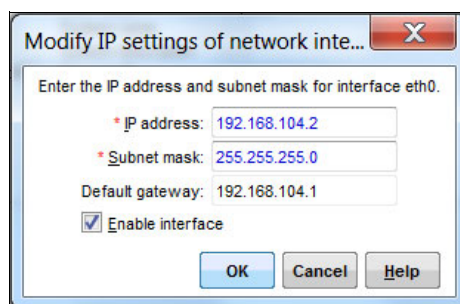

Figure 14-5 Window to assign the IP address of the network interface
3. In the dialog box that is shown in Figure 14-5, enter the parameters for one iSCSI target port. Specify the IP address, the Subnet mask, and the Default gateway. Select the **Enable interface** check box.